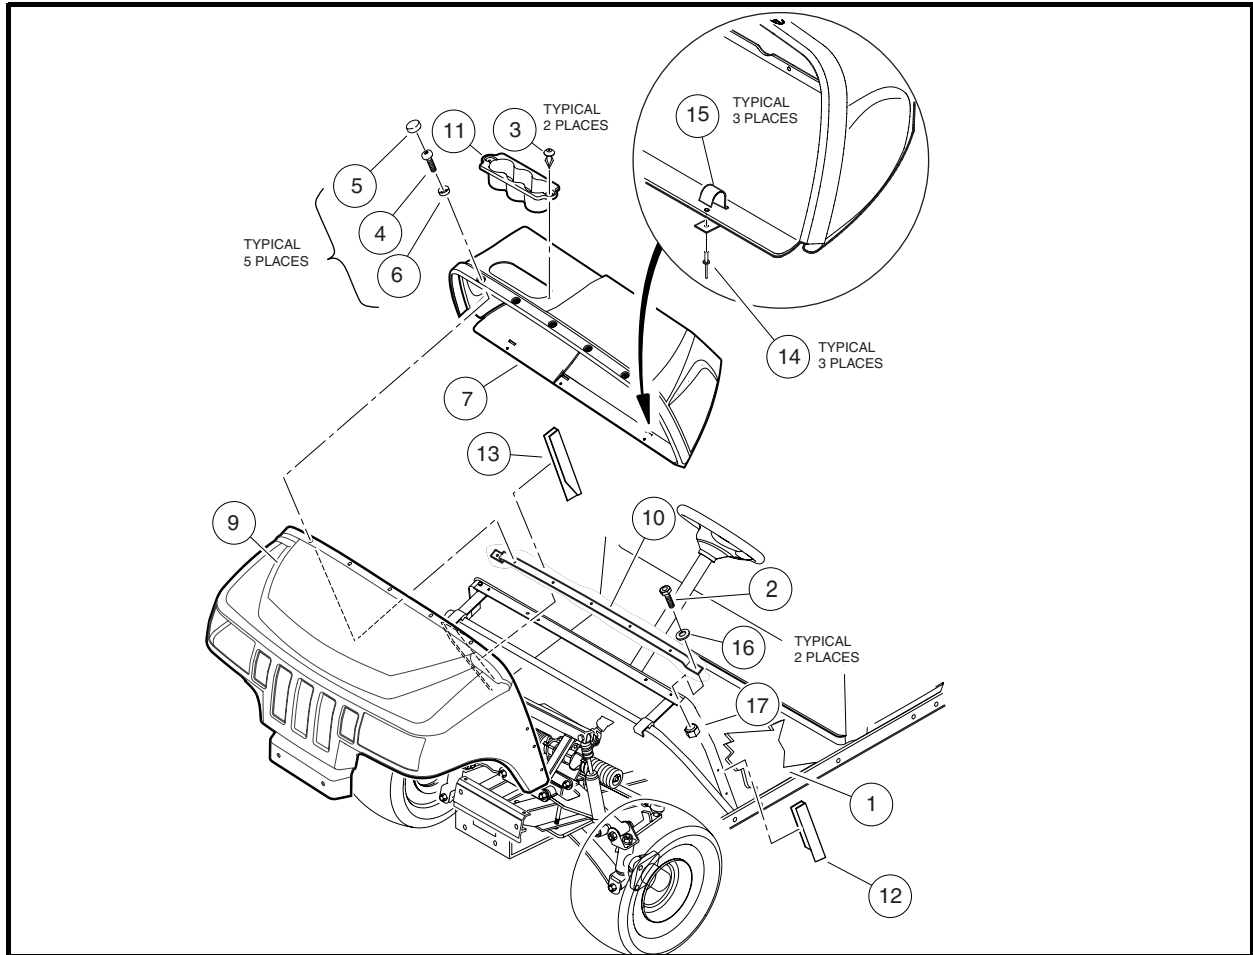

Figure 4-3 Front Body Assembly – 800 and 810
2. Remove caps (5) from body and dash screws (Figure 4-3, Page 4-5).
3. Remove screws (4) and plastic scalloped washers (6) from body and body support and slide body away from dash.
5. Pull front body (9) from body covers (12) and (13).
2. Slide the three dash clips (15) along the bottom edge of the dash up and away from the frame and floor mat (**Figure 4-3, Page 4-5**).
1. Pass the steering wheel through the instrument panel opening in the dash (**Figure 4-3, Page 4-5**).
2. Install body (9) under body covers (12) and (13) and align holes with dash and body support (**Figure 4-3, Page 4-5**).
4. Attach plastic caps (5) onto dash screws.